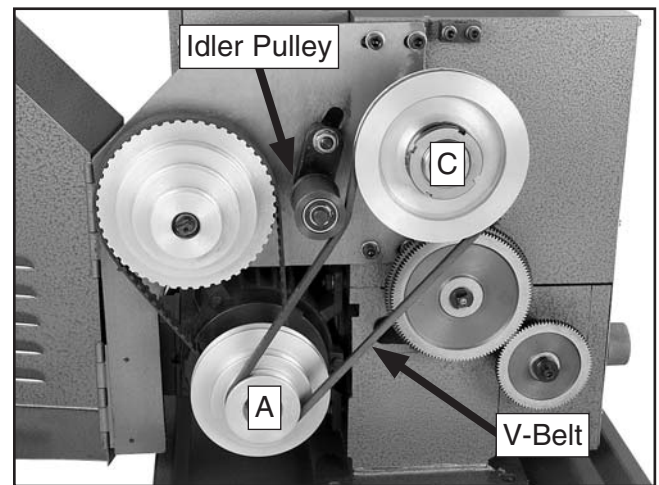

Figure 37. V-belt in the "A–C" configuration.
3. Use **Figures 37–38** to identify the "A", "B", and "C" pulleys. Also, note the location of the idler pulley.
—For "A–C" configurations (see **Figure 37**), position the longer V-belt (32" in circumference) in the correct "C" pulley slot, then roll it onto the "A" pulley.